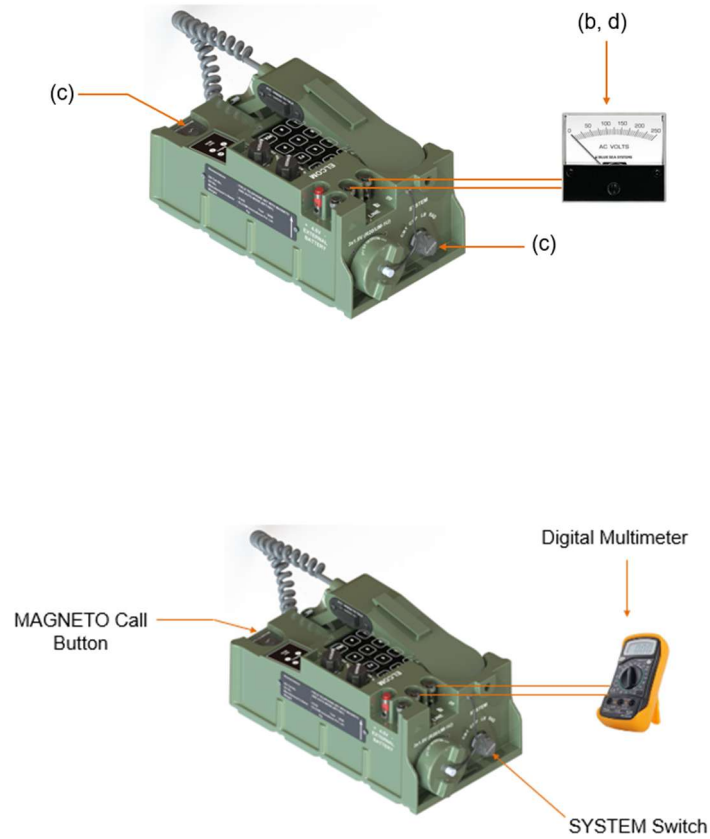

Figure 17: Monthly Maintenance
- b) Connect an AC voltmeter across the line terminals as shown in the Figure 17.